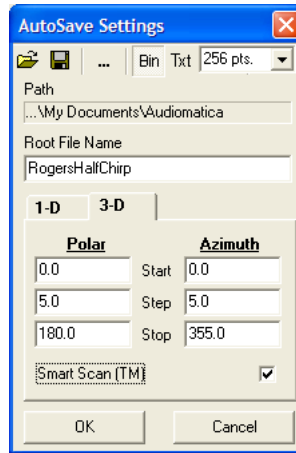

Figure 12.23
Let's start with setting the autosave function (see also 5.3). Pressing **Alt-F2** we recall the Autosave Setting dialog (fig.12.23); here we choose the 3D mode and input the desired filename ('RogersHalfChirp'), polar start (0), polar step (5), polar stop (180), azimuth start (0), azimuth step (5) and azimuth stop (355).